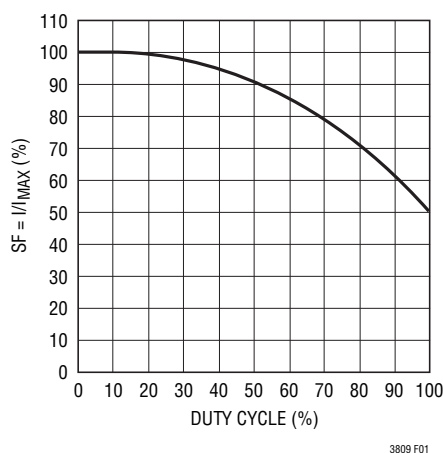

Figure 1. Maximum Peak Current vs Duty Cycle
However, once the controller's duty cycle exceeds 20%, slope compensation begins and effectively reduces the peak sense voltage by a scale factor (SF) given by the curve in Figure 1.
where SF is a scale factor whose value is obtained from the curve in Figure 1.